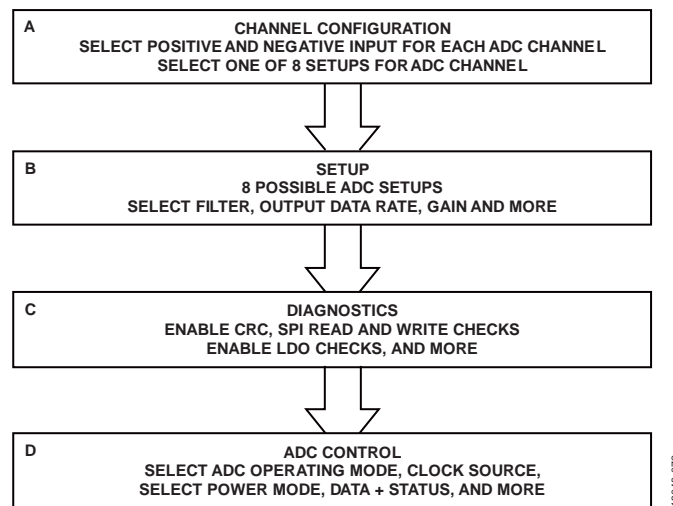

Figure 68. Suggested ADC Configuration Flow
Figure 68 shows an overview of the suggested flow for changing the ADC configuration, divided into the following three blocks:
- Channel configuration (see Box A in Figure 68)
- Setup (see Box B in Figure 68)
- Diagnostics (see Box C in Figure 68)
- ADC control (see Box D in Figure 68)